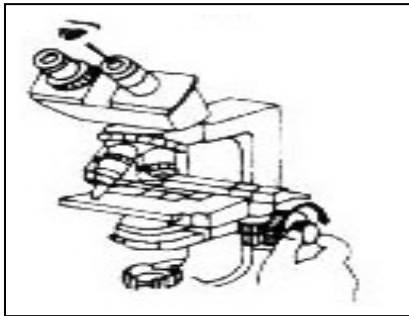

Fig. 4.5
- Focus the image with right eye by looking into the right eyepiece by turning the fine focusing knob (Fig. 4.5).